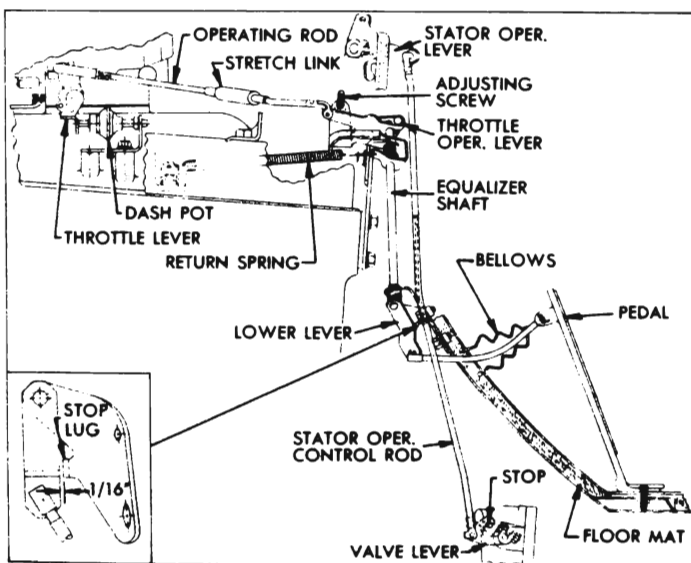

Figure 3-8—Throttle and Stator Control Linkage
5. Disconnect throttle return spring and disconnect throttle operating rod from lever on equalizer shaft. See figure 3-8.
10. With throttle closed to hot idle position check clearance between the equalizer shaft lower lever and the stop lug in the shaft-to-cowl mounting bracket. A minimum clearance of $\frac{1}{16}$ " must exist at this point. See figure 3-8.